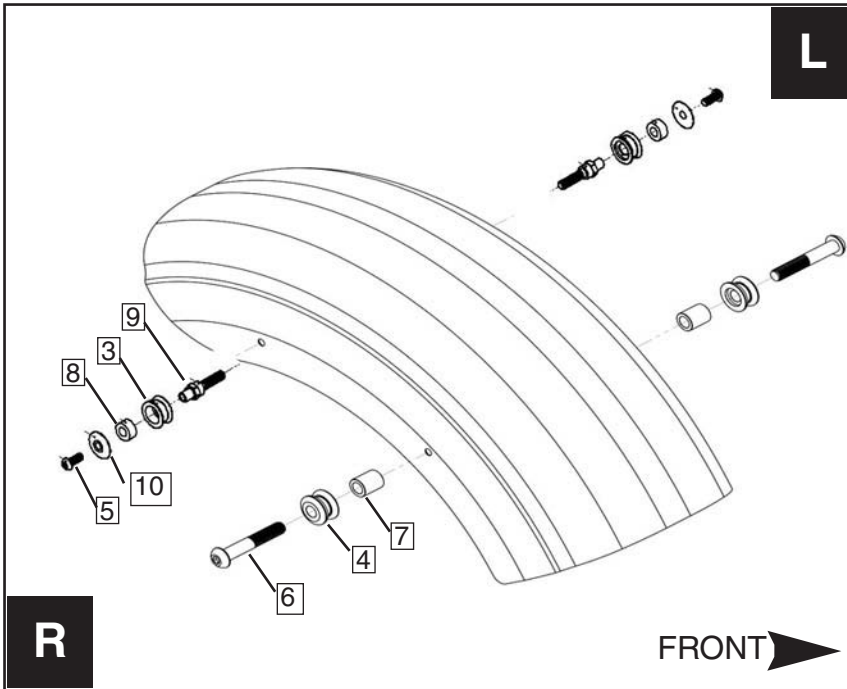

Figure 1
2. Assemble front and rear spools into the right fender. Do not fully tighten. This will allow some movement which aids in the side plate installation. **(5 and 6mm Hex Wrench, 5/8" Box Wrench) Figures 1 and 2**